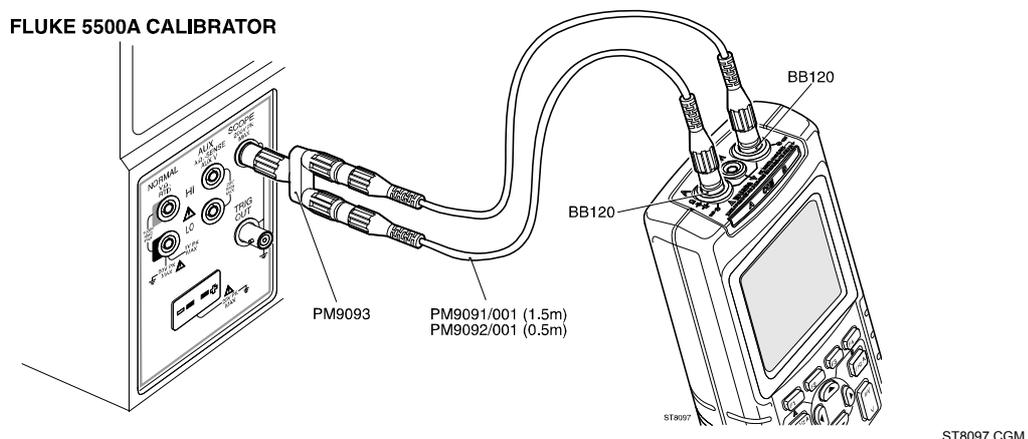

Figure 5-3. HF Gain Calibration Input Connections
2. Connect the test tool to the 5500A as shown in Figure 5-3. Do NOT use 50Ω terminations!